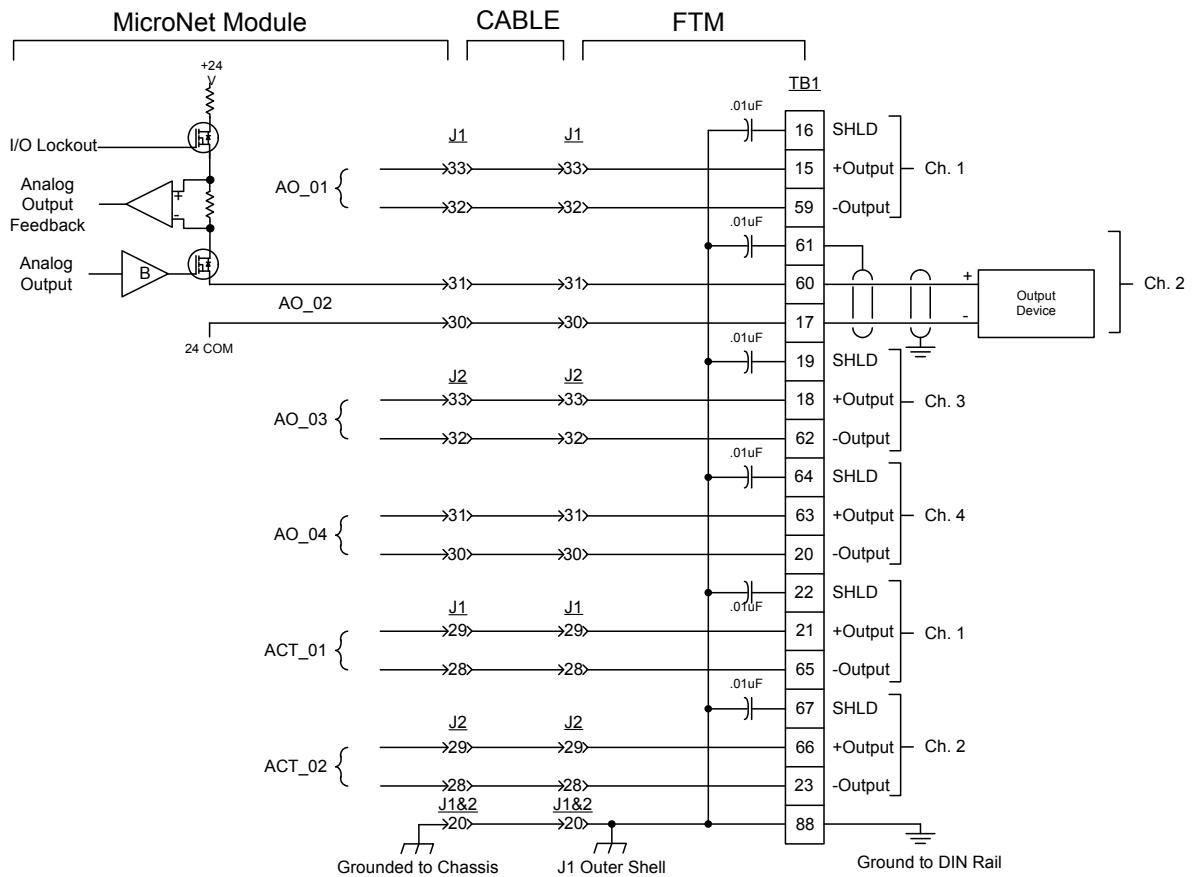

Figure 4-9. Example Analog Output Circuitry and Wiring Diagram
The Analog Combo module has four 4–20 mA current output drivers. These four analog outputs can drive a maximum load of 600 ohms (load + wire resistance). Care should be taken to prevent ground loops and other faults when interfacing to non-isolated devices. See Figure 4-9 for an example of 4–20 mA output wiring.
### **Actuator Outputs (Figure 4-9 as ACT\_01 and ACT\_02)**
- Refer to Figure 4-9 for Analog Output wiring connections on the MPU / Analog IO Field Termination Modules.
Figure 4-9 shows a circuitry and wiring schematic for the six analog outputs found on an MPU / Analog IO Field termination Module. Refer to Volume #3 of this manual for a complete list of programmable analog output options.